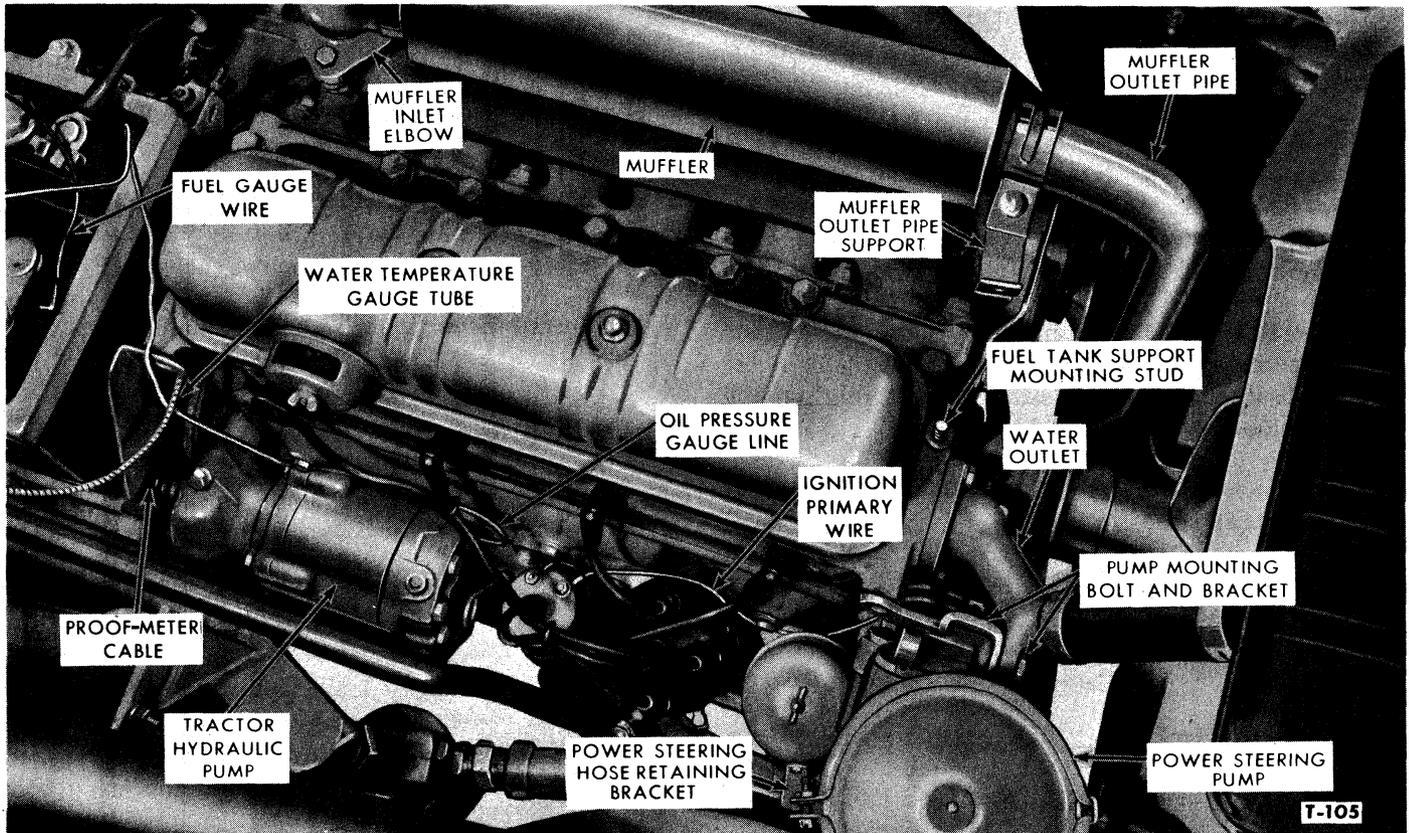

Figure 6—Top View of Engine
5. Remove the cotter pin and clevis pin that attaches the adjusting link to the power steering pump. Remove the bolt that attaches the pump to the mounting bracket, Figure 6, then lay the pump to one side. Remove the nut and lock washer that attaches the power steering hose retaining bracket to the right front side of the cylinder block.
Gasoline Engines Only: Disconnect the primary wire from the ignition coil, see Figure 6. Lift the wiring harness from the three retaining clips and place it to one side.
10. Disconnect the water temperature gauge tube from the right side of the cylinder block, see Figure 6.